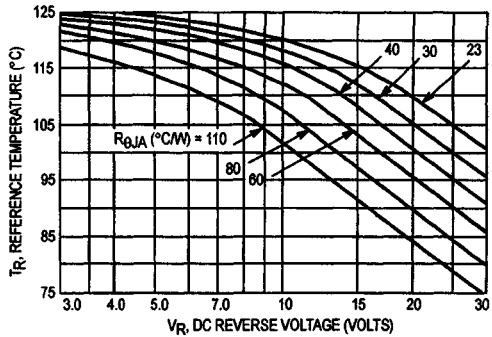

Figure 2. Maximum Reference Temperature 1N5818
Step 2. Find T_R from Figure 2. Read $T_R = 109^\circ\text{C}$.